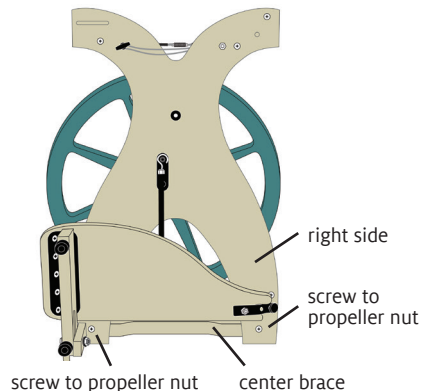

FIGURE 3: REMOVE SCREWS
4. Look at the right side of the upright wheel to locate the two screws underneath the treadle. These screws go through the center brace and into propeller nuts on the left side (Figures 3 and 4A). Remove these screws or loosen them enough to detach the left side from the center brace. Save the screws for Step 7.
**8.** Reattach the wheel sides: Stand the Sidekick upright. From the right side, install the screws you removed in Step 4 (shown in Figure 3). Tighten these screws into the propeller nuts in the left side.